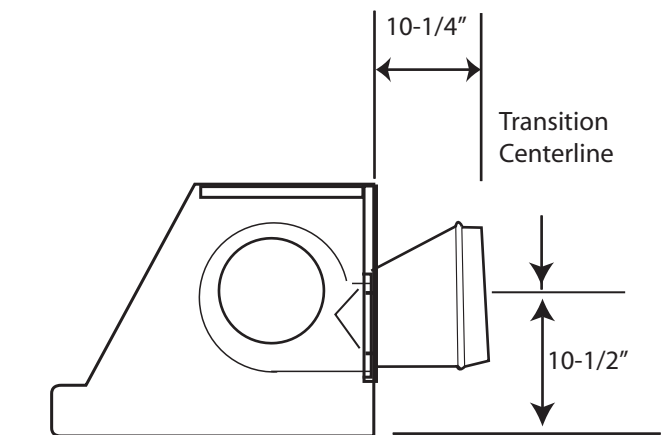

Figure 7: Transition Centerline for Horizontal Discharge
The transition supplied with the hood connects to standard 10-inch round duct. Figure 7 shows the transition connected for horizontal discharge.
12. Before hanging hood, install transition per Figure 7. Fasten transition with two (2) screws (#8 x 3/8 sheet metal, supplied) and tape per all applicable codes.